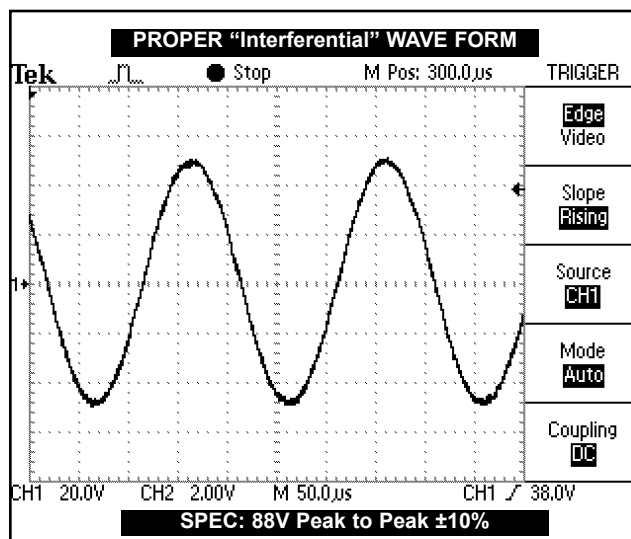

FIGURE 5.7
7. Compare wave form on scope to Figure 5.7.
10. Verify that the "Amplitude Ch 1 & 2" drops to zero (0) and that "Paused" is displayed at the bottom of the "Channel 1" and "Channel 2" timer icons.
1. Wave is the same between scope and Figure 5.7, amplitude dropped to zero when paused and "Paused" displayed at bottom of timer when paused.